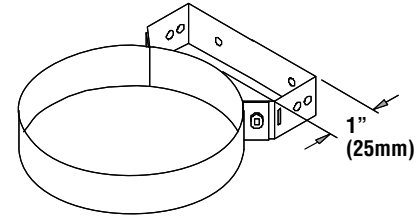

Figure 27 - Wall guide (WG)
1. The wall guide is used as a lateral guide to resist lateral or side load only, it is not designed for carrying the weight of a vertical chimney. It also ensure a minimum clearance of 1" to combustibles for model DIS and 4" for model DAS. See **Figure 27** (wall guide).